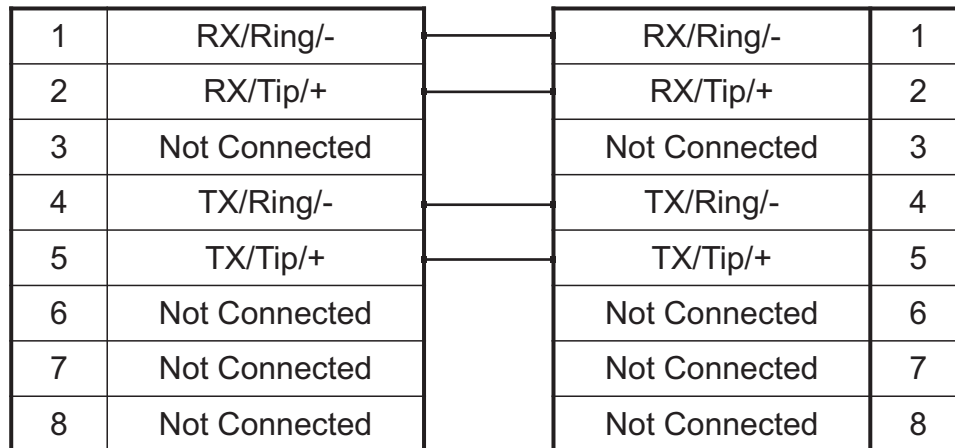

Figure 2.5 RJ48 Wiring Schematic
- Your TMG3200 features 16 modular 8-conductor RJ48 type jacks for connection to T1/E1/J1 lines. You will need one cable for each (T1/E1/J1) interface on the TMG3200. If you are making your own cables, refer to figure 2.5 on page 14 for crossover or straight cable wiring connections.
A TMG3200 with 16 RJ48 type ports enables the connection to T1/E1/J1 lines. The termination impedance is set at 100 ohms for T1 lines and 120 ohms for E1 lines. It is possible to connect an external balun in order to convert to 75 ohms. See figure 2.4 on page 13. If you are making your own cables, refer to figure 2.5 on page 14 for crossover or straight cable wiring connections.